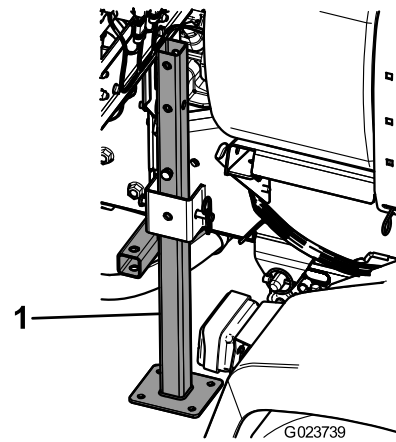

Figure 48
3. Insert the rear jack stands from the bottom, up into the frame, near the rear tie-down points (Figure 48).